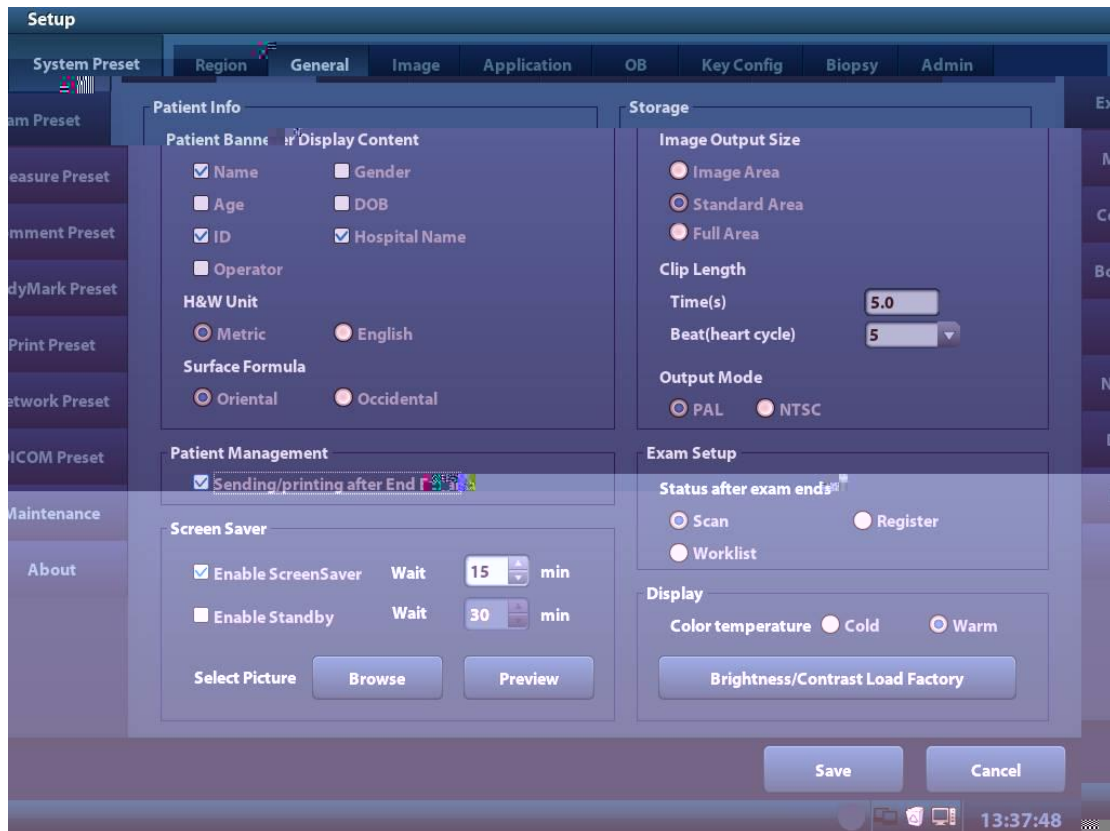

Figure 14 Sending/printing after End Exam
1. In System Preset -> General, select, as shown in Figure 14 **Sending/printing after End Exam.**